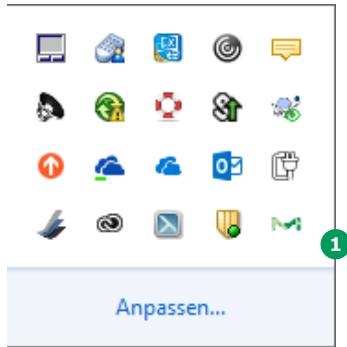
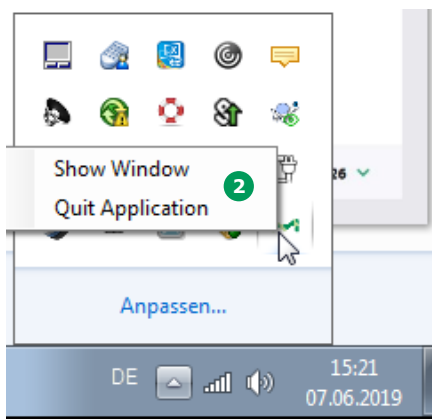

Figure 43 - Tray icons of Windows task bar
Figure 44 - Context menu after right-clicking on Prove Connect tray icon
Your computer shows a Prove Connect tray icon ① (Figure 43) in the Windows task bar. Right-click on this icon opens a pop-up menu ② (Figure 44) listing the following items: